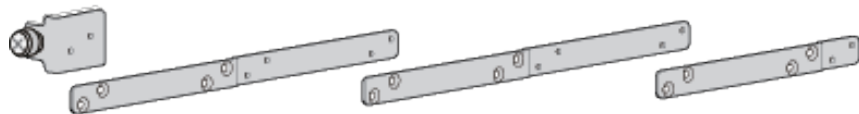

Figure 112. Extension Bracket Configurations
You adjust the lengths of the brackets by connecting them in different combinations. There are seven possible configurations. Refer to Figure 112. The default configuration is number 5. To adjust the extension brackets, perform the following procedure:
1. Review Figure 112 to find the bracket length that most closely matches the measurement taken in step 3 in the previous procedure.